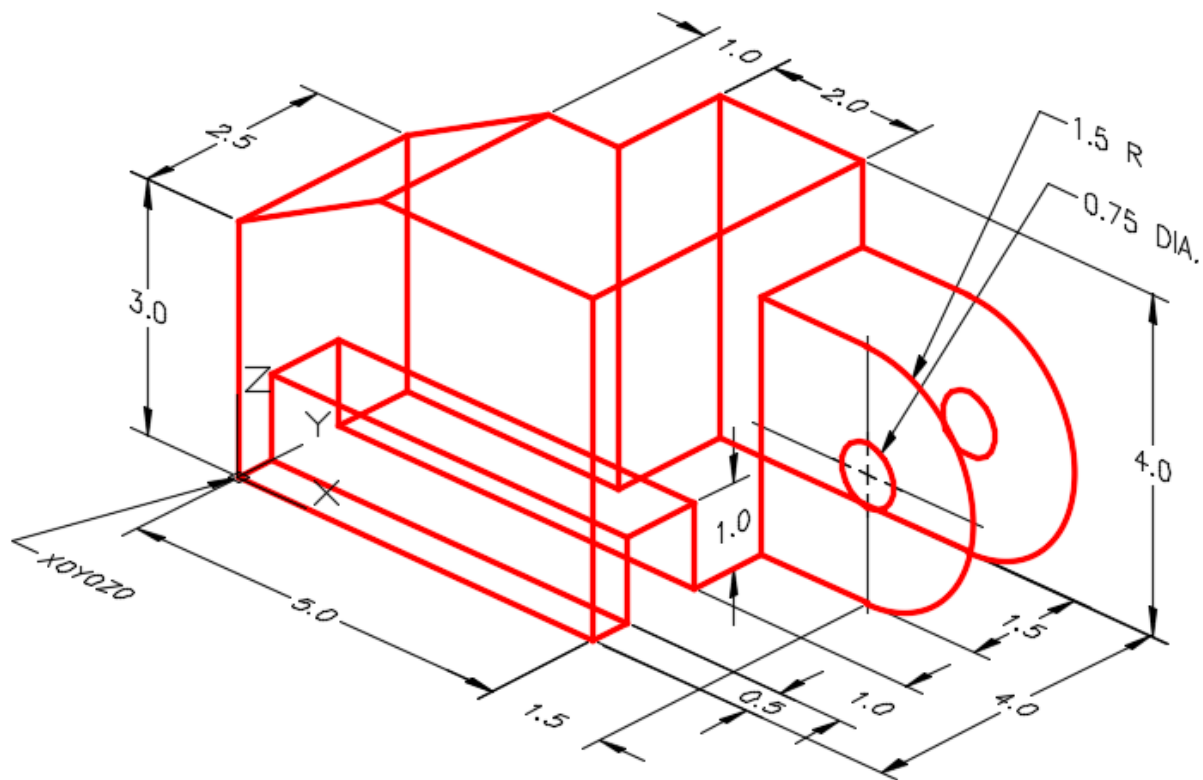

Figure Step 2A
Step 2 On layer: Solid 3, draw a solid model of the object. (Figure Step 2A, 2B, and 2C)